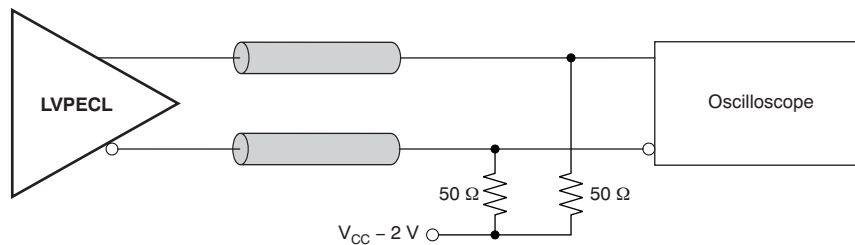

Figure 8. LVPECL Output DC Configuration During Device Test
(1) Figure 8 and Figure 9 show DC and AC test setup.
(2) Internally generated bias voltage ( $V_{AC, REF}$ ) is for 3.3-V operation only. It is recommended to apply externally generated bias voltage for  $V_{CC} < 3.0\text{ V}$ .